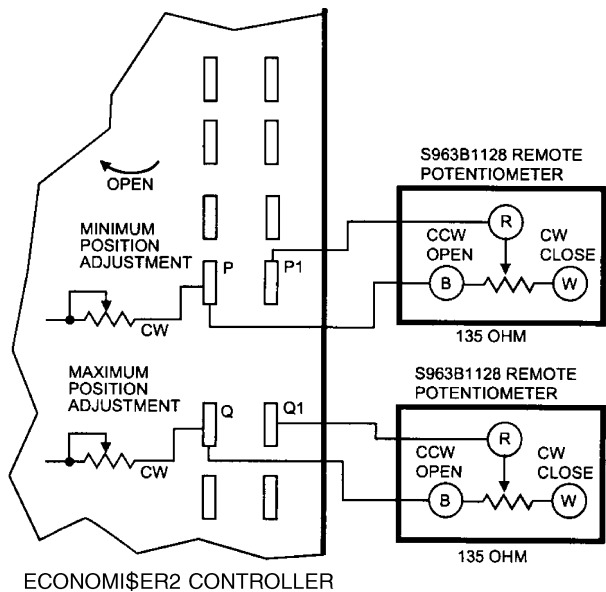

Fig. 37 — Remote Damper Position Potentiometer Wiring
- Ensure that the factory-installed jumper is in place across terminals P and P1. If remote damper positioning is being used, make sure that the terminals are wired according to Fig. 37 and minimum position potentiometer is turned fully clockwise.
2. Ensure that the factory-installed jumper is in place across terminals Q and Q1. If remote damper positioning is being used, make sure that the terminals are wired according to Fig. 37 and minimum position potentiometer is turned fully clockwise.
To control the minimum damper position remotely, wire the field-supplied potentiometer to the P and P1 terminals on the EconoMiSer2 controller. See Fig. 37.
To control the maximum damper position remotely, wire the field-supplied potentiometer to the Q and Q1 terminals on the EconoMiSer2 controller. See Fig. 37.